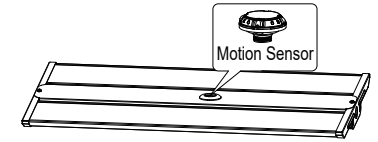

Figure 6
Step2. Screw in the motion sensor (Figure 6).